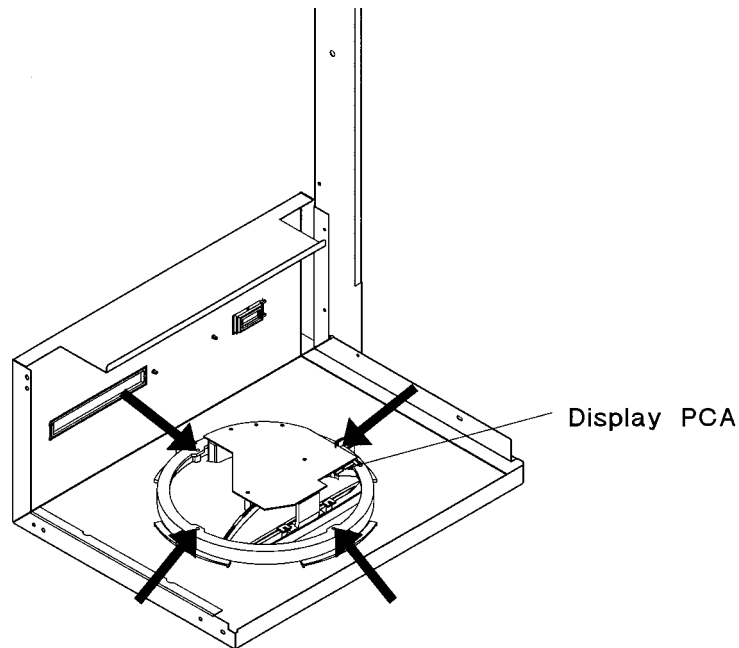

Figure 18: Control Panel Assembly Mounting Screws
3. Remove the four T-10 sheet metal screws from the control PCA retaining ring to detach the control panel PCA from the mounting assembly (see the arrows on Figure 18).